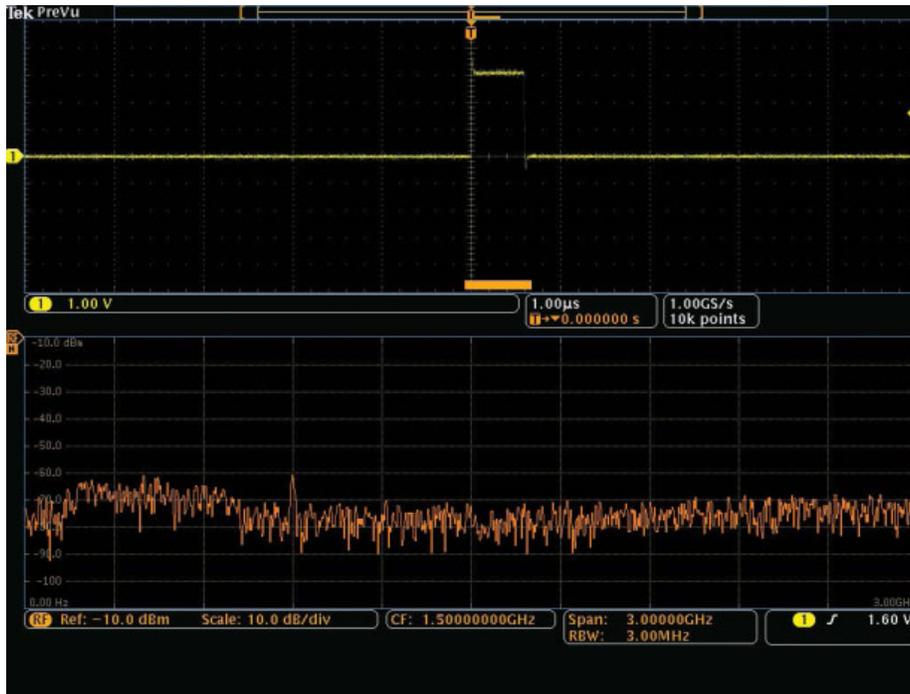

Figure 47.
**Description:** These signals are the input to the DAC. These are also the 8-bit parallel output signals of the port expander in the middle of the mixed signal chain. The sine wave data from the SPI bus is converted to 8 parallel bits to drive the DAC. DAC\_IN0 is the LSB. (See Figure 47.)
**Description:** This is the output of the DAC at the end of the mixed signal chain. The DAC is driven from the port expander. The DAC output is a sine wave. Since the output is not filtered, the digitizing levels are present in the output waveform. (See Figure 47.)